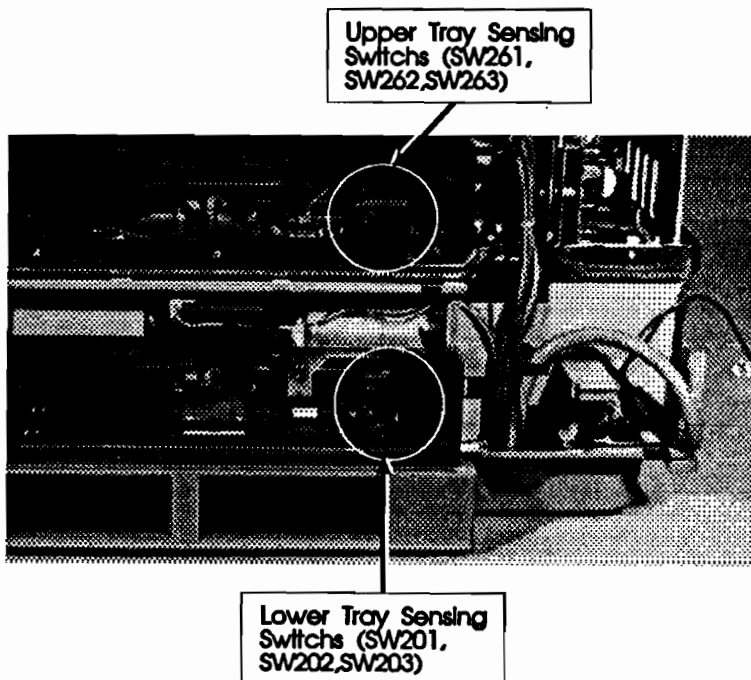

Figure 7-6. Tray Size Sensing Microswitches Locations
4. With one hand, PUSH on the left-most tray identifier switch (SW203), being careful not to push the Sensing Arm Flag at this time (see Figure 7-6). If the pickup roller begins to move at this point:
The paper tray size microswitch levers are located on the lower right side of each paper tray cavity. The microswitches indicate the presence and size of the installed paper tray to the DC Controller. The switches are activated by protrusions located on the rear of the paper tray. When the tray is inserted, the protrusions activate (engage) the microswitches (refer to Figure 7-6 below.)
3. With the other hand, PUSH switch SW263/203 (the left-most microswitch) while observing the Control Panel display. (See Figure 7-6).